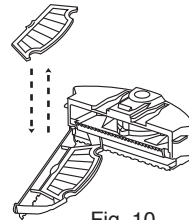

Fig. 10
3. Then replace by sliding and pushing a new HEPA dust filter into place (Refer Fig. 10).